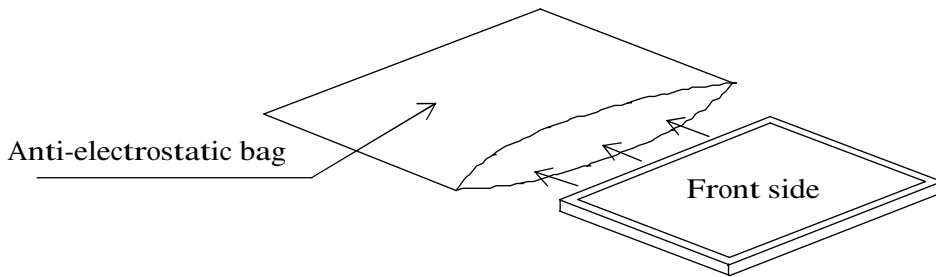

Fig. 17-1(a) Packaging method
**(8) Return method of the LCD module requested for repair or analysis of the problem**
- When returning the LCD modules, adhere to the following procedures not to damage the LCD panel or the backlight cables. (Fig. 17-1(a)~(b))